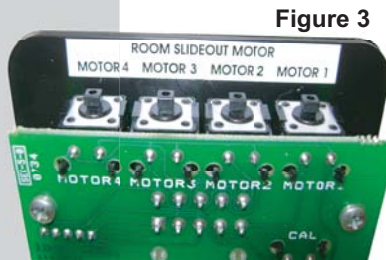

Figure 3
- a. Press and hold all SLIDEOUT motor buttons ( Motor1, Motor 2, Motor 3, and Motor 4) on the back of the wall touchpad. (Figure 3)